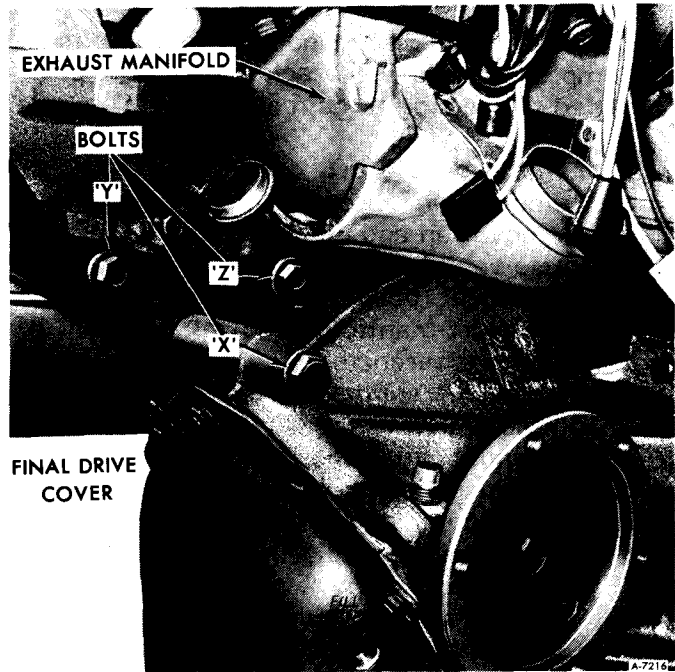

Figure 72—Disconnecting Final Drive from Engine
12. Remove bolt "X". (See figure 72).
13. Remove three (3) bolts that secure the converter to the flywheel.
7. Attach final drive to engine. Refer to figure 72, install bolt "X" and torque to 105 ft. lbs.